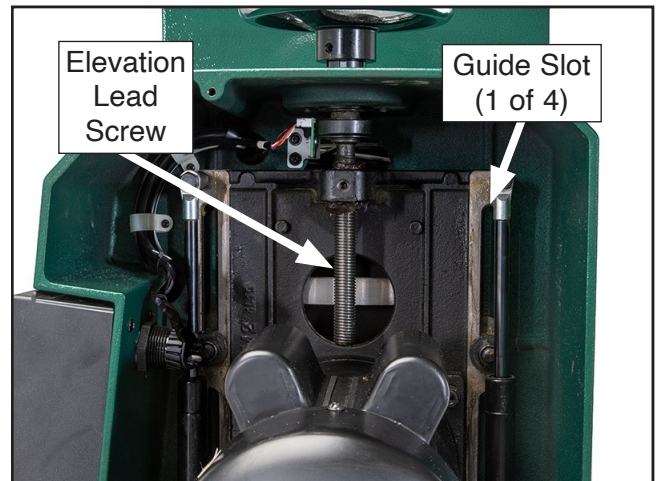

Figure 37. Location of guide slots and elevation leadscrew.
3. Thoroughly clean elevation leadscrew and (4) guide slots (see Figure 37).